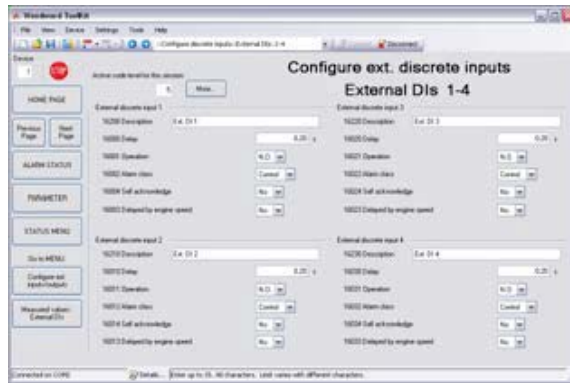

Fig. 236: Setup of external DIs
- Set up the external discrete inputs using the Toolkit screen shown in (Fig. 236).